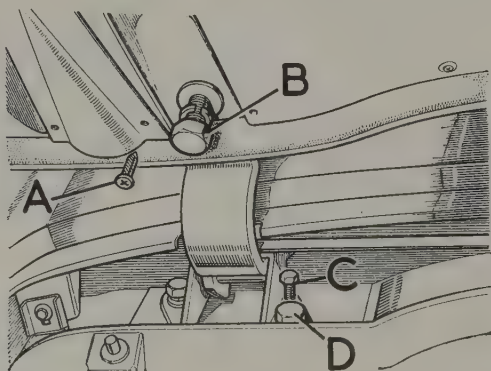

Fig. 12.33. Boot lid hinge detail
- 4 Undo and remove the four bolts and plain washers that secure the hinge to the boot lid (Fig.12.33).